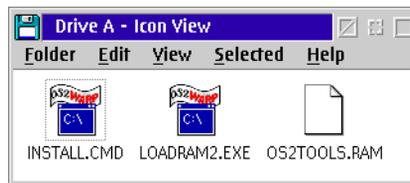

Figure 57 Drive A - Icon View
- At the launchpad (console's OS/2 desktop), click the *Drive A* drawer button. The *Drive A - Icon View* displays (Figure 57).